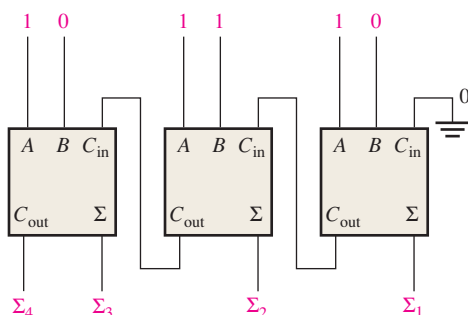

FIGURE 6-69
4. For the parallel adder in Figure 6-69, determine the complete sum by analysis of the logical operation of the circuit. Verify your result by longhand addition of the two input numbers.